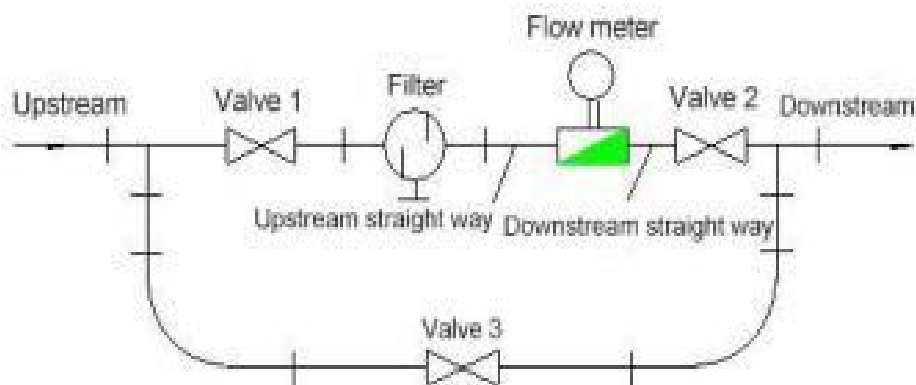

Fig. 11
- (1) The flow meter can be installed horizontally and vertically, and the fluid direction must be upward when installed vertically. The liquid should fill the pipe without air bubbles.
- (2) During installation, the liquid flow direction should be consistent with the direction of the arrow indicating the flow direction on the flowmeter housing. There should be at least a straight pipe section of 10 times the diameter at the upstream end, and a straight pipe section of no less than 5 times the diameter at the downstream end.
- (3) The flow meter should be far away from the external electromagnetic field. If it cannot be avoided, the necessary shielding measures should be taken.
- (4) In order not to affect the normal delivery of liquid during maintenance, a bypass pipeline should be installed at the place where the flow meter is installed
- (Fig. 11).